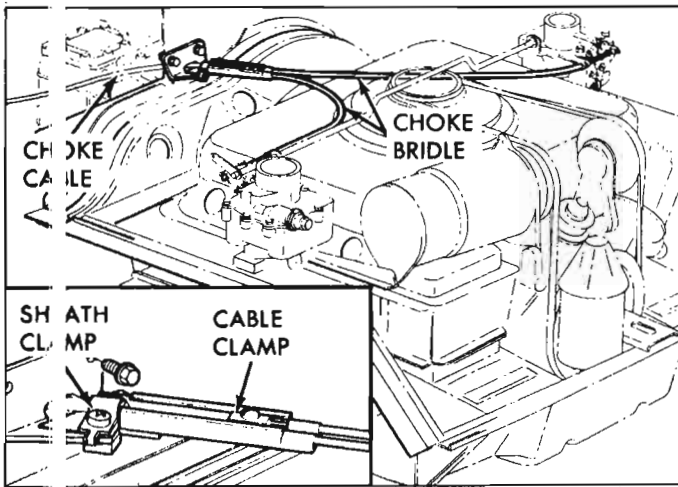

Fig. 6-2—Choke Cable Installation
6. Disconnect tunnel choke cable (fig. 6-2) at its attachment to the choke bridle by loosening the screws securing the cable sheath clamp and cable clamp (Inset, fig. 6-2).